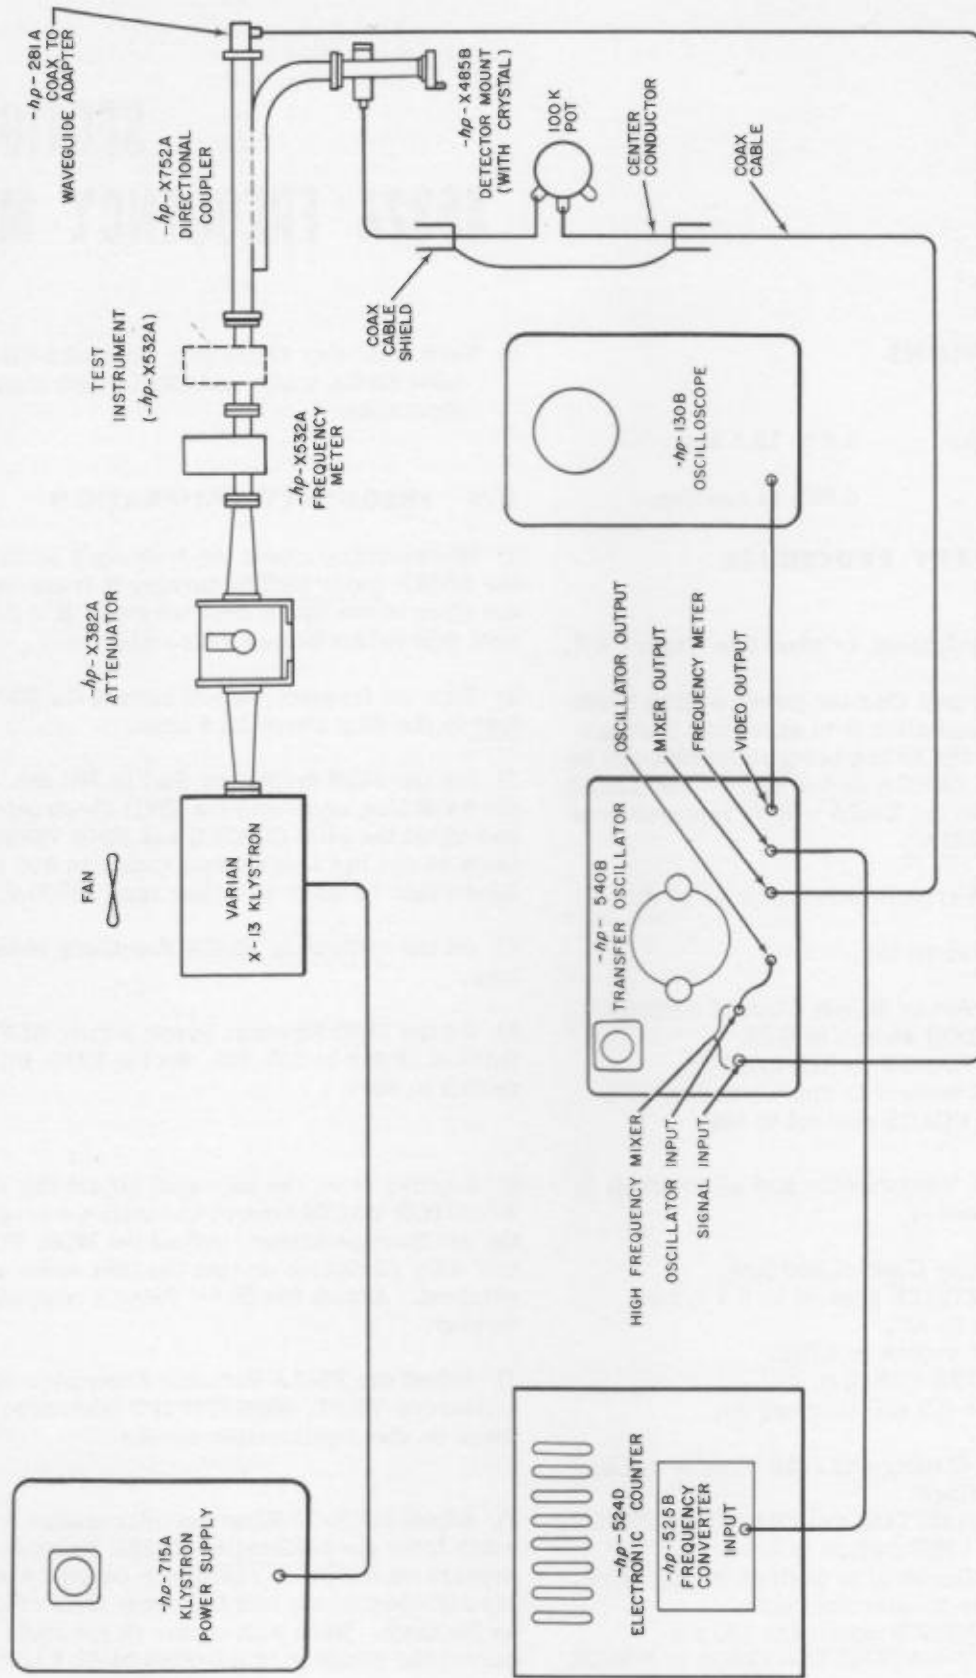

Figure 4-1. X532A Frequency Meter Calibration
- 1) Connect the equipment as shown in Figure 4.1.